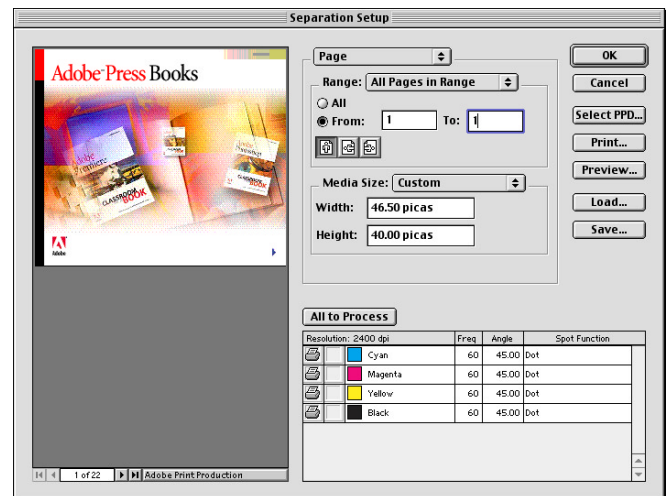

FIG. 2: The Separation Setup dialog box.
- Separator (FIG. 2). The separator tool provides the means to preview how color separations will be produced in the output device RIP. Users can intelligently map spot colors to process colors or to other spot colors in order to reduce the number of required plates.